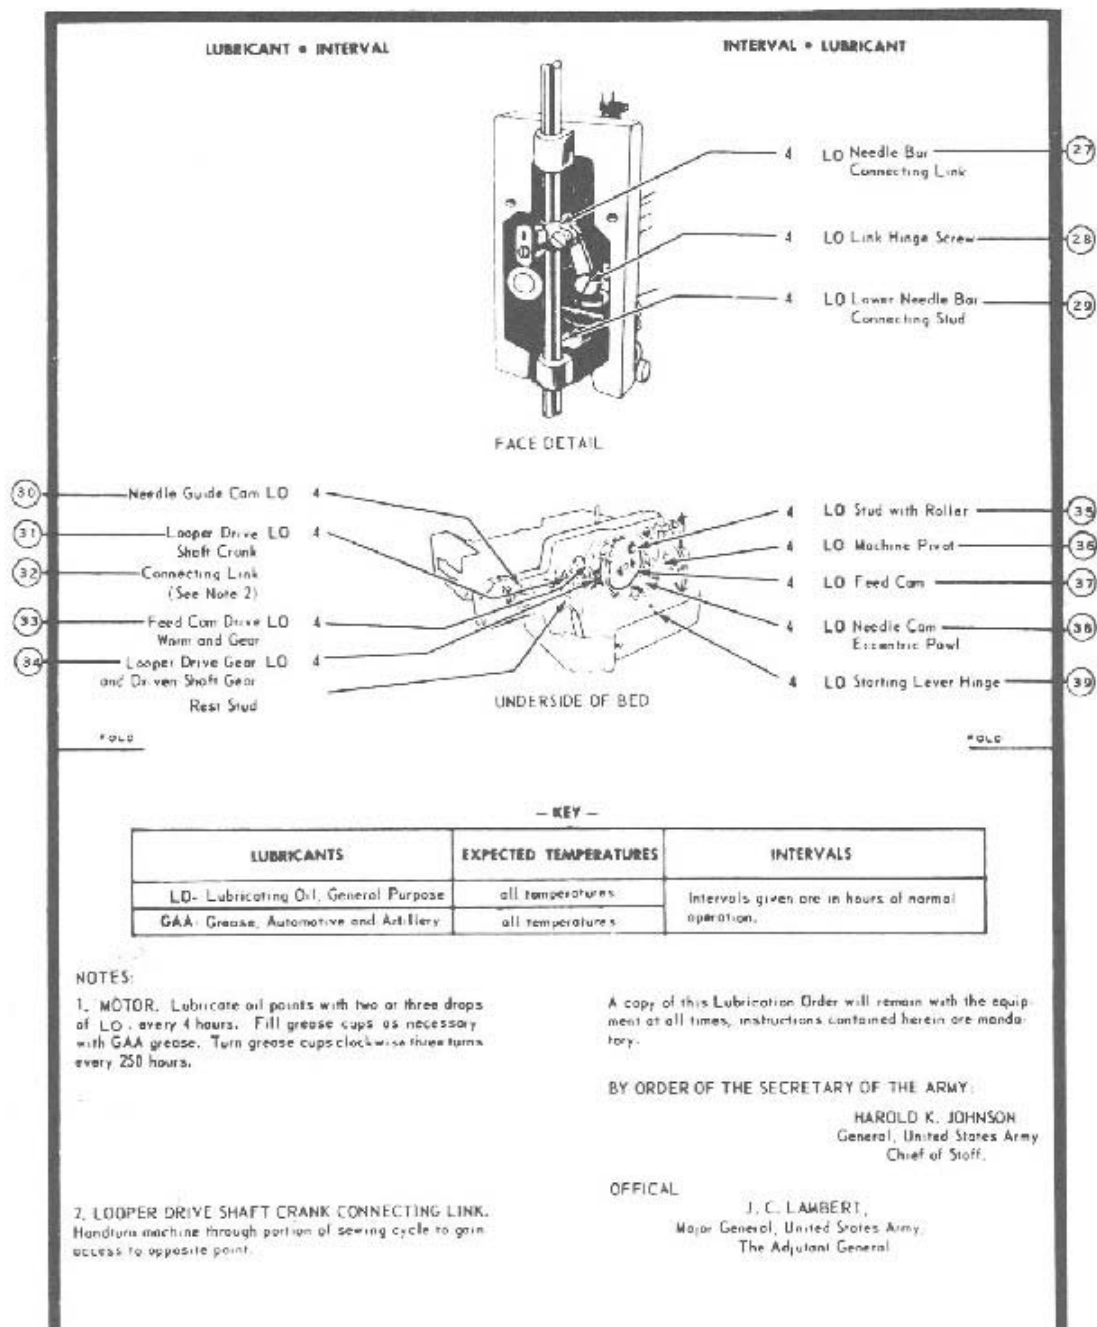

Figure 3-106
- (1) Use a size 16 or 18 needle. Size of needle describes the gauge of the needle eye.
- (2) Use a 175 (class number) and a 3 or 7 (variety number) needle.
- (b) Variety number describes the length and the type of point on the needle. (See Figure 3-106)